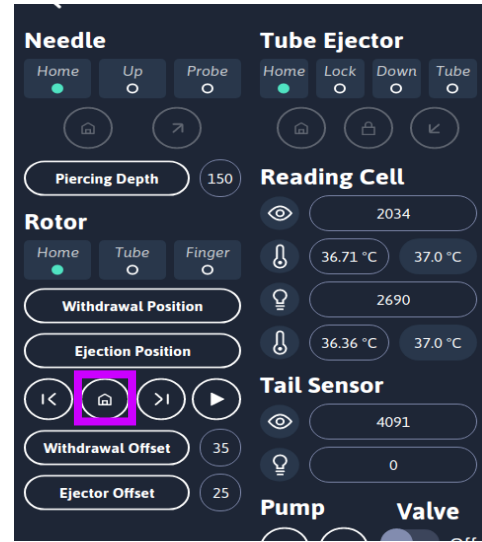

Figure 14
14. Press the “Home” Rotor Button as highlighted in Figure 14. This will return the bleach tube to the loading position. At this point, the tube can be removed and discarded.